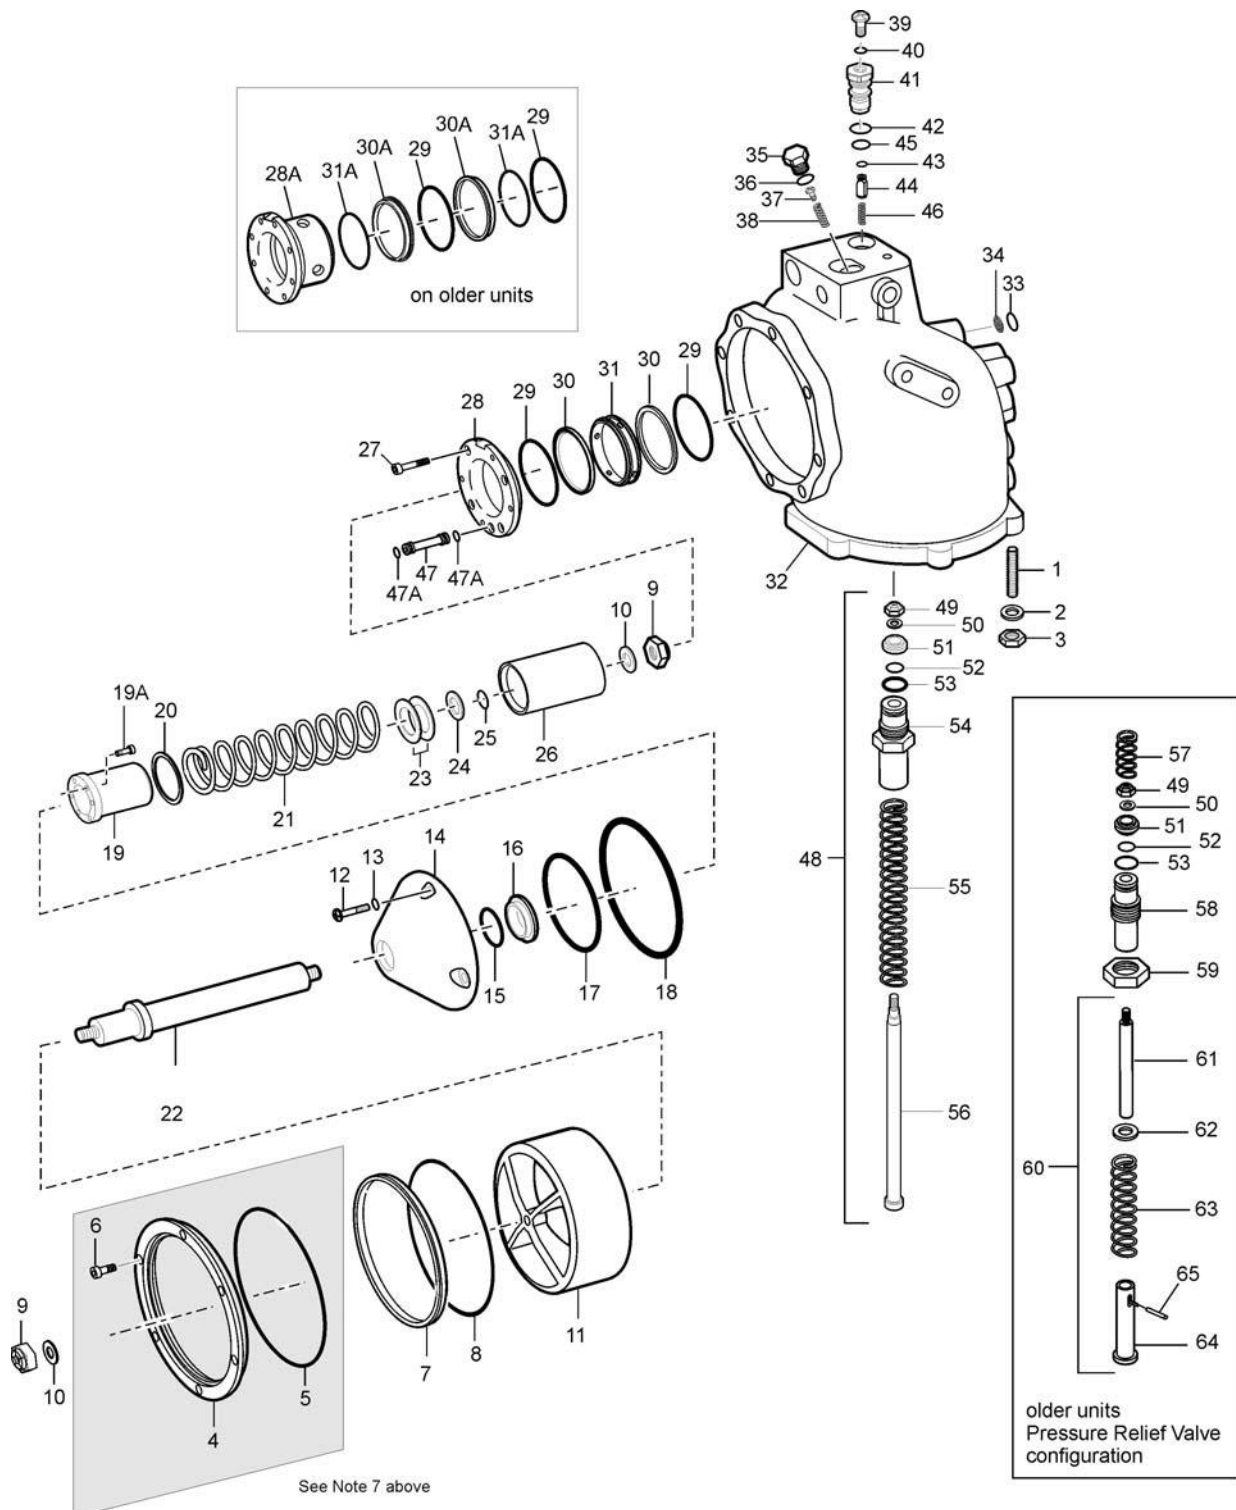

FIGURE 3
3. Plug, item 1-26 and Gasket item 1-19 are normally installed in all couplers. Item 1-23, elbow is provided for those users with air operated hydrants for ease of connection of the air system to the quick disconnect on the hydrant valve. Discard the parts not needed for your system.
7. Early units utilized the Seal Housing (3-4), O-Ring (3-5) & Screws (3-6) (refer to shaded area of Figure 3). These items are no longer present on new units and are considered unnecessary to the overall performance of the unit.